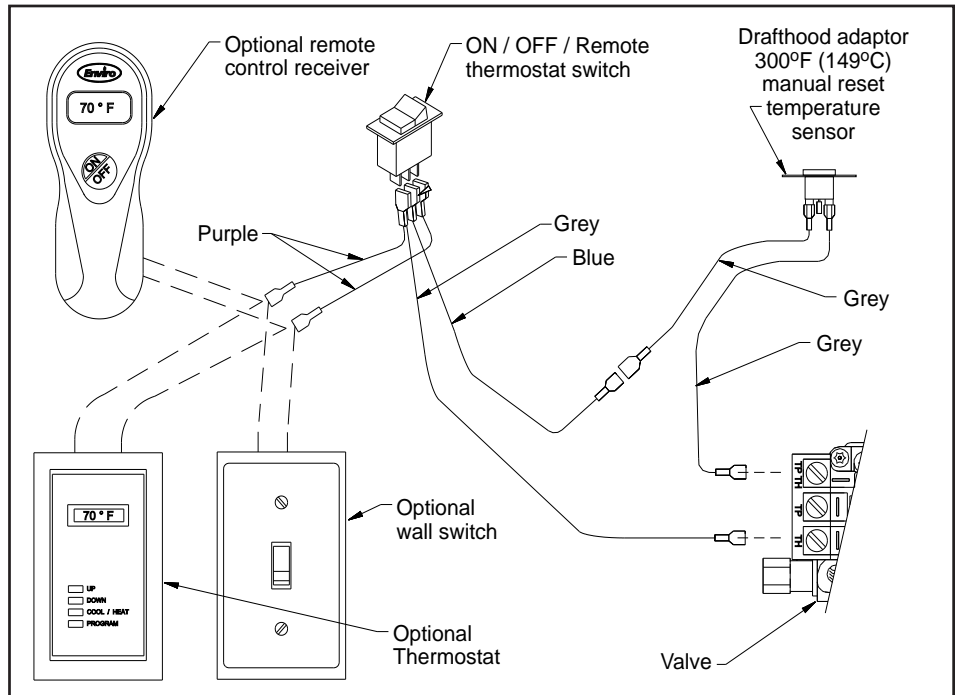

Figure 34: Wiring Diagram for Electrical Connection.
The fireplace connections are labelled in Figure 34. When installing the Drafthood Adaptor onto a fireplace fitted with an optional wall switch or an optional thermostat, remove one wire from the switch to the gas valve and connect the Drafthood Adaptor harness as shown.
2. Disconnect the spill switch wires from the valve and on/off/remote rocker switch wire (see Figure 34).